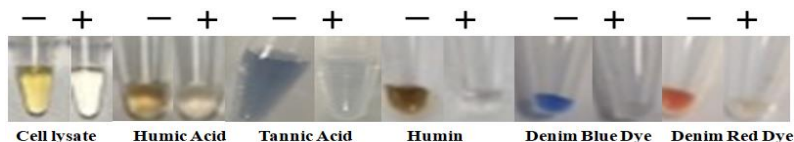

Fig.1 Cell lysate cleanup PCR inhibitor removal
**BcMag™ One-Step Plant DNA Purification Kit** allows rapid, column-free extraction of genomic DNA from various plant sample sources, including leaves, stems, buds, flowers, fruit, seeds, etc. The kit uses our unique proprietary magnetic beads and buffers to efficiently lyse cells and remove all impurities simultaneously in an aqueous buffer, leaving the DNA untouched. The procedure employs mild lysis conditions, avoiding harsh conditions such as alkaline lysis and toxic chemicals for lysing cells to maintain DNA integrity and the time-consuming cleanup of organic solvent from the sample. Furthermore, the magnetic beads eliminate PCR inhibitors (Fig.1) from samples in a single step without DNA extraction. It increases DNA integrity, boosts nucleic acid yields, and minimizes DNA loss caused by typical DNA purification techniques' time-consuming "bind-wash-elute" procedure. Following sample lysis, the straightforward one-step purification technique enables simultaneous processing of >96 samples and produces pure DNA in less than 30 minutes. Purified genomic DNA has the highest integrity and can be used in various downstream applications such as qPCR.